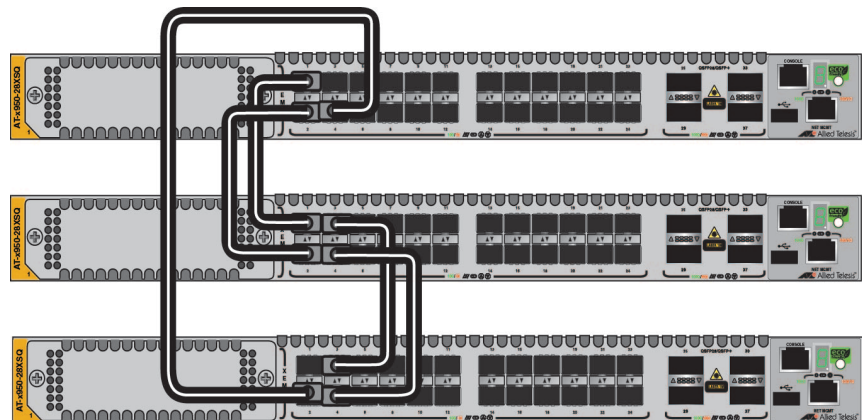

Figure 38. Unsupported Trunk with Different Numbers of Links Between Switches
- ❑ In stacks of three or more switches, the number of links in the trunk has to be the same on all switches. The trunk in Figure 38 is unsupported because the middle switch is connected to the top and bottom switches with two links each, while the top and bottom switches are connected with only one link.